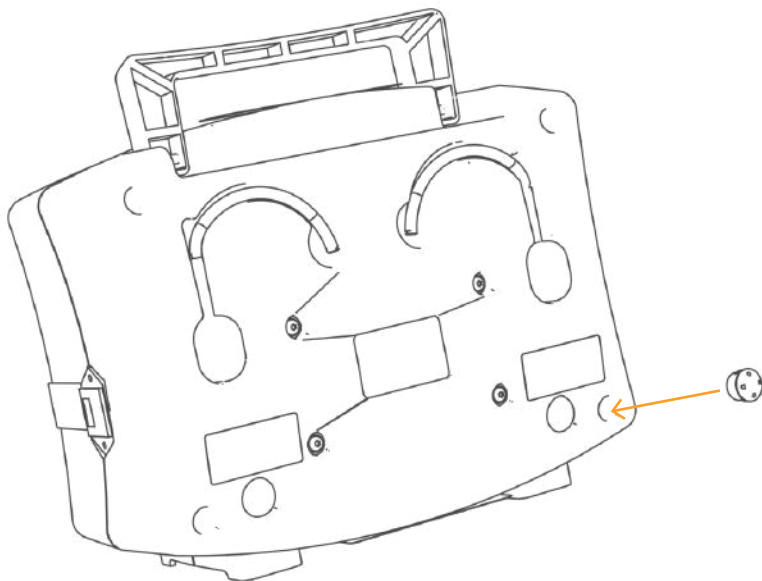

Figure 1
2. Alight vented cap with port on back of case. (Fig. 1)
1. Use a pointed instrument and leverage to pull vented cap from port on back of case. (Fig. 1)